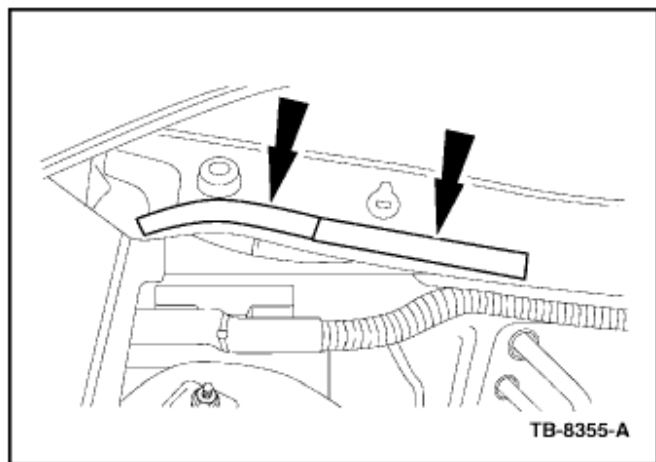

Figure 9
12. Place the other two cut pieces of the PVC soft foam adhesive stripes on the metal body surface over the PCM area. The two ends need to touch, do not allow any gap between the two ends. (Figure 9)